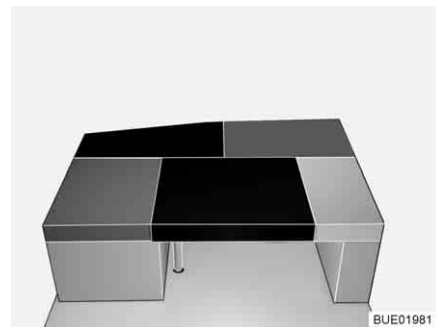

Fig. 149 After conversion
- Place the rectangular additional cushion on the table (between the seat cushion and the back cushion of the lateral seat, see Fig. 149).